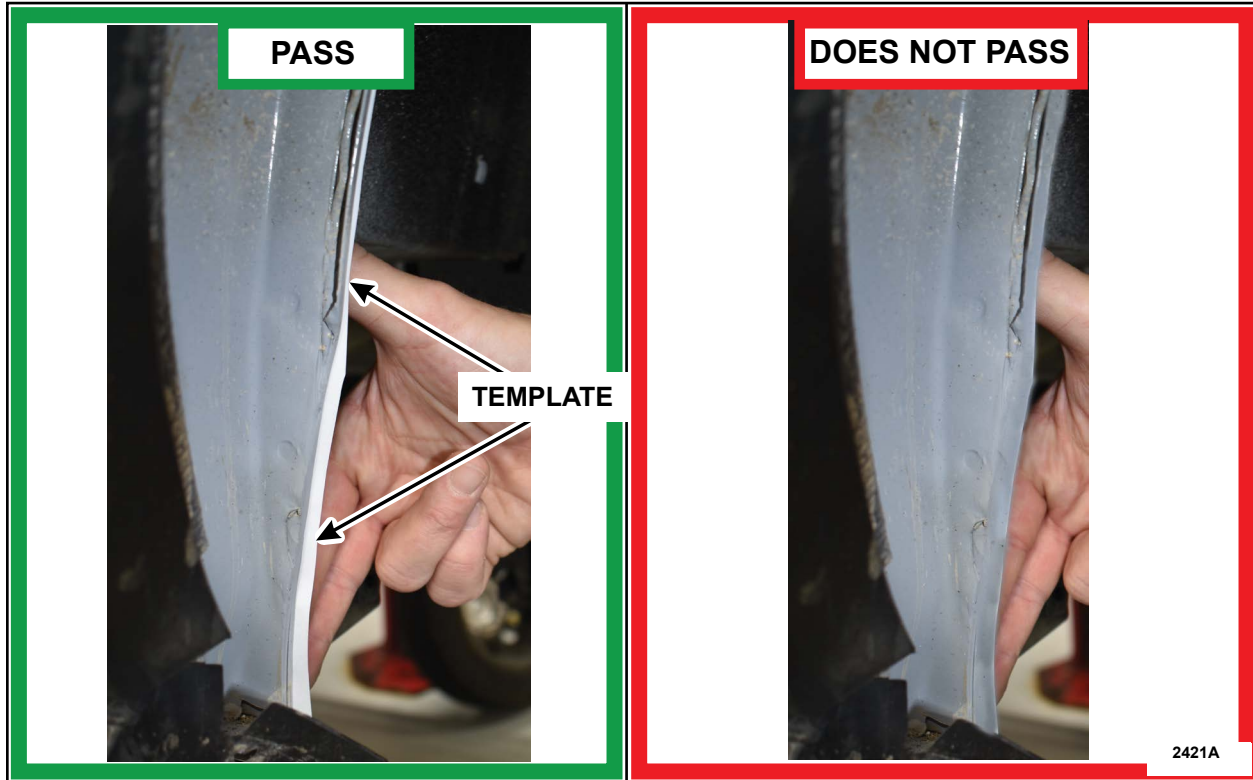

FIGURE 3
8. Using the template, position it behind the weld flange and line it up as shown. See Figure 3.
9. Inspect the weld flange area. Is the template visible past the weld flange area? See Figure 3.